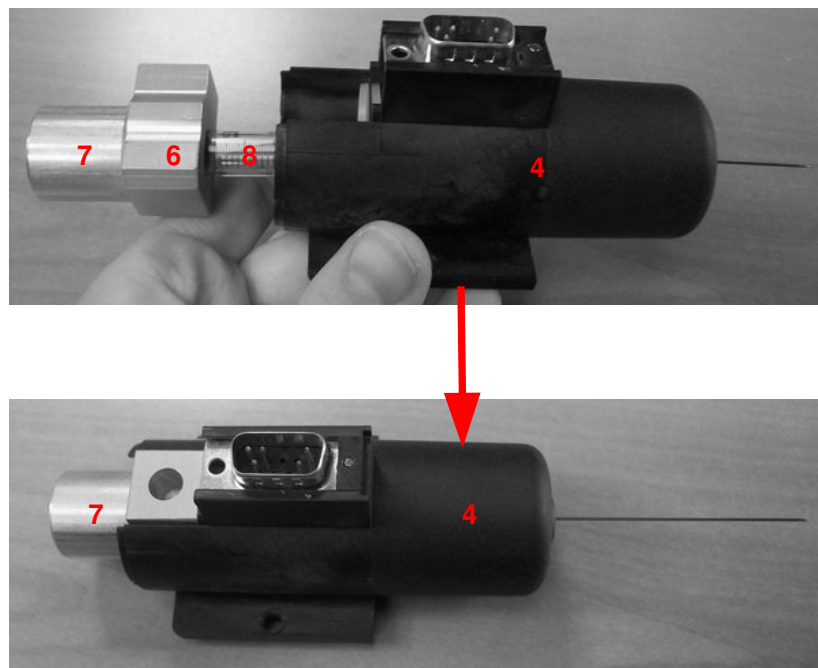

Figure 117: Syringe barrel mounting inside the heating body
10. Insert the syringe barrel (number 8 in **Figure 117**), with the upper spacer (number 7 in **Figure 117**) and the syringe holder (number 6 in **Figure 117**) mounted on it, in the heating body. The needle has to be inserted through the hole in the bottom of the body.
10. Insert the syringe barrel (number 8 in **Figure 117**), with the upper spacer (number 7 in **Figure 117**) and the syringe holder (number 6 in **Figure 117**) mounted on it in the heating body. The needle has to be inserted through the hole in the bottom of the body.
23. Insert the syringe barrel (number 8 in **Figure 117**), with the upper spacer (number 7 in **Figure 117**) and the syringe holder (number 6 in **Figure 117**) mounted on it in the heating body. The needle has to be inserted through the hole in the bottom of the body.